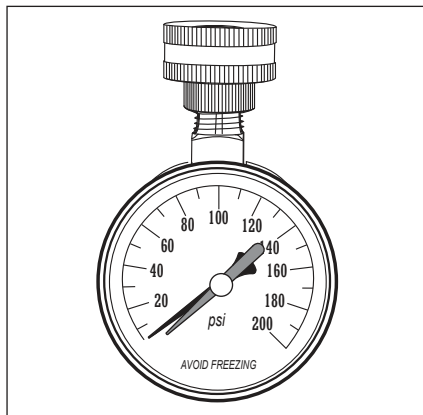

Figure 5 - Use a Water Pressure Gauge to make sure your home's water pressure is not too high.
- Water Pressure Gauge (Figure 5 on page 7)
We recommend checking your home's water pressure with a pressure gauge (Figure 5). Most codes allow a maximum incoming water pressure of 80 psi/551 kpa. We recommend a working pressure no higher than 50-60 psi/345-414 kpa.